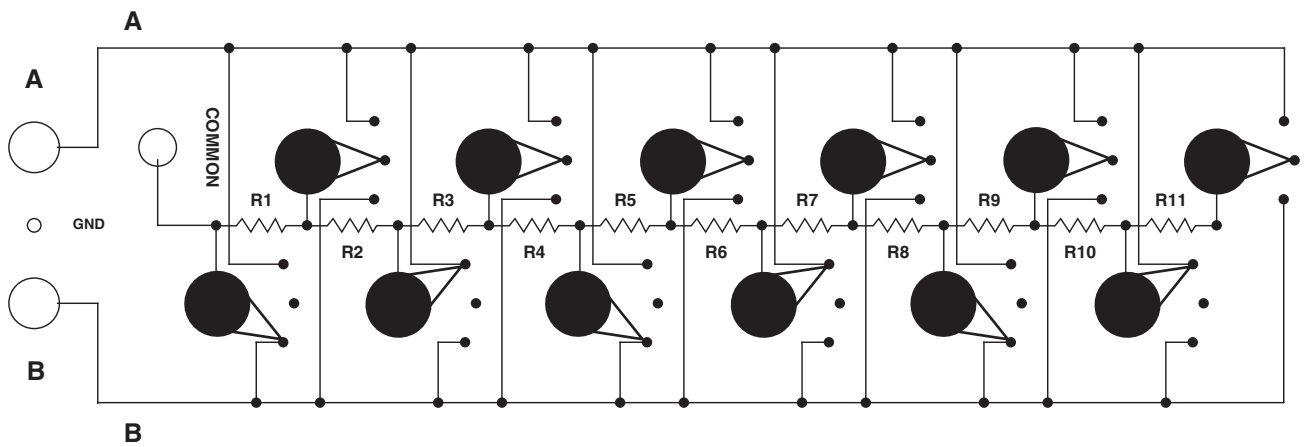

Figure 4-8: Resistance = $0.4R$: 5 groups of 2, in series-parallel
- For a composite value of $0.4R$, see Figure 4-8.